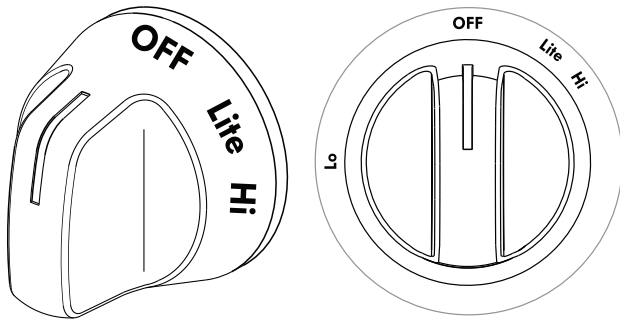

Figure 12: The front control gas knob
2. Push the desired surface control knob in and turn counterclockwise out of the OFF position (Figure 12).
3. Push the OVAL SIMMER control knob in and turn counterclockwise out of the OFF position (Figure 12). This knob is located on the right-hand side of the control display.